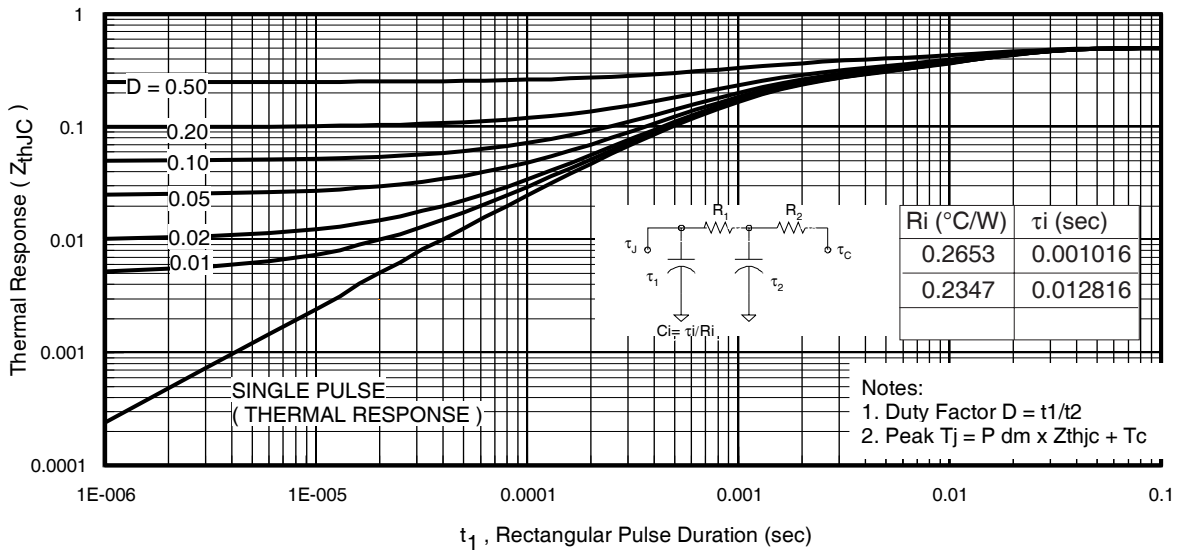
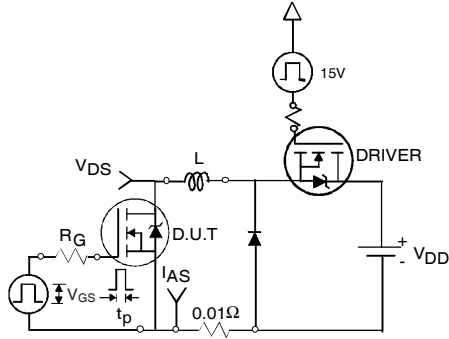

Fig 11. Maximum Effective Transient Thermal Impedance, Junction-to-Case
Fig 12a. Unclamped Inductive Test Circuit
- ① Calculated continuous current based on maximum allowable junction temperature. Bond wire current limit is 160A. Note that current limitations arising from heating of the device leads may occur with some lead mounting arrangements.
- ② Repetitive rating; pulse width limited by max. junction temperature. (See fig. 11).
- ③ This value determined from sample failure population , starting $T_J = 25^\circ\text{C}$, $L = 0.23\text{mH}$ $R_G = 25\Omega$, $I_{AS} = 75\text{A}$, $V_{GS} = 10\text{V}$.
- ④ Pulse width $\leq 1.0\text{ms}$; duty cycle $\leq 2\%$.
- ⑤ C_{oss} eff. is a fixed capacitance that gives the same charging time as C_{oss} while V_{DS} is rising from 0 to 80% V_{DSS} .
- ⑥ Limited by T_{Jmax} , see Fig.12a, 12b, 15, 16 for typical repetitive avalanche performance.
- ⑦ This is only applied to TO-220AB package.
- ⑧ This is applied to D²Pak, when mounted on 1" square PCB (FR- 4 or G-10 Material). For recommended footprint and soldering techniques refer to application note #AN-994.
- ⑨ R_{θ} is measured at T_J of approximately 90°C.
- ⑩ TO-220 device will have an R_{th} of 0.45°C/W.
3. Equation below based on circuit and waveforms shown in Figures 12a, 12b.
$Z_{thJC}(D, t_{av})$ = Transient thermal resistance, see figure 11)